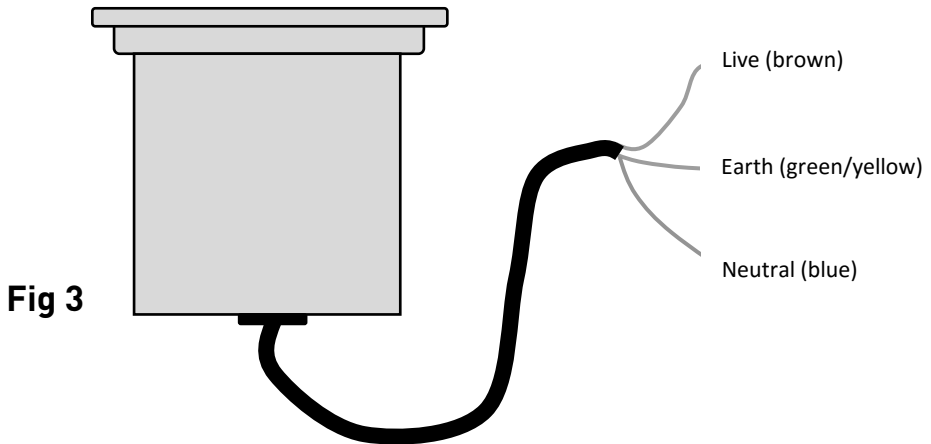

Fig 3
- Connect the mains supply, Live (brown), Neutral (blue) and Earth (green/yellow) (see Fig 3)